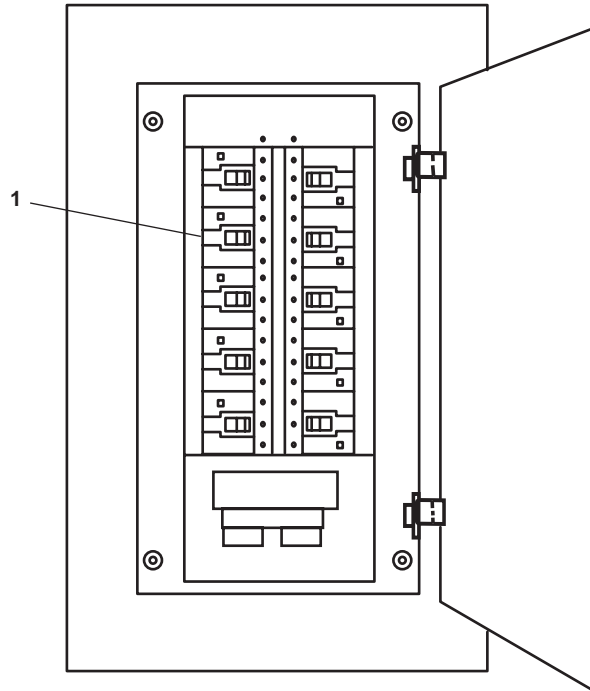

Figure 2. 440V Power Panel No. 4
2. Set to ON the MSD DISCHARGE PUMP AND BLOWER. circuit breaker (figure 2, item 1) in 440V power panel No. 4.